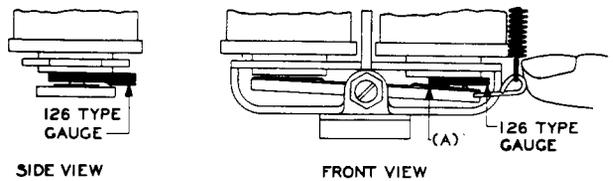

Fig. 8 - Method of Checking Airgaps on Ringers Without Stop Screws Having Flexible Stop Pins
(2) No. 38B, 51A, and 51B Ringers Having Flexible Armature Stops: Fig. 8(A) -
Note: On the 38- and 51-type ringers with flexible armature stops, the No. 126B gauge maximum should enter the gap with slight friction when the stops are resting against the armature at both ends as shown in Fig. 8.